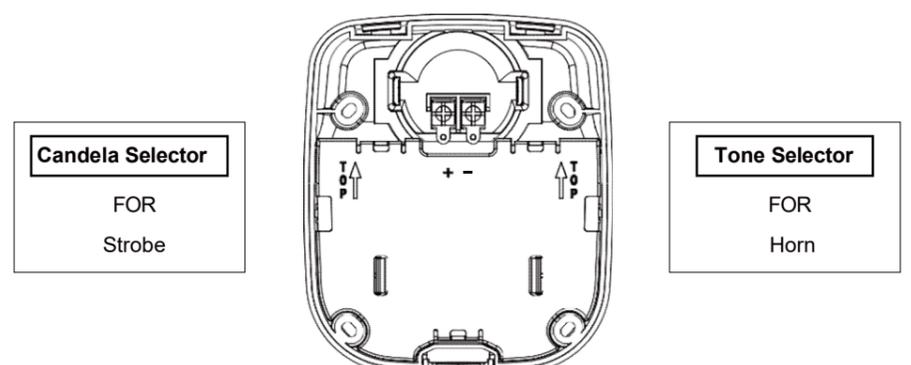

Figure 3: Candela and Tone Selector
- ⚠ **NOTE:** Horn setting Tone Selector switch is shown in Figure 3; settings are T4 H, T4 L, CONT H, CONT L for Temporal 4 High, Temporal 4 Low, Continuous High, Continuous Low, respectively.